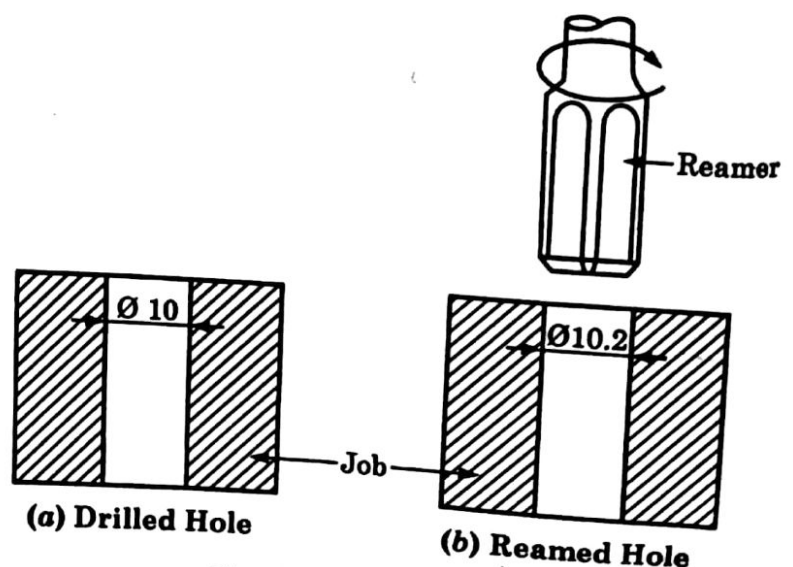

Fig. 2.16 : Reaming
3. **Reaming** : After drilling, reaming is the most common operation performed on a drilling machine. A reamer is similar to the twist drill, but has straight flutes. Reaming is done to bring the already drilled hole to a proper and accurate size, because accurate hole is rarely obtained by drilling alone and chances are there that the hole may become oversize. (See fig. 2.16).